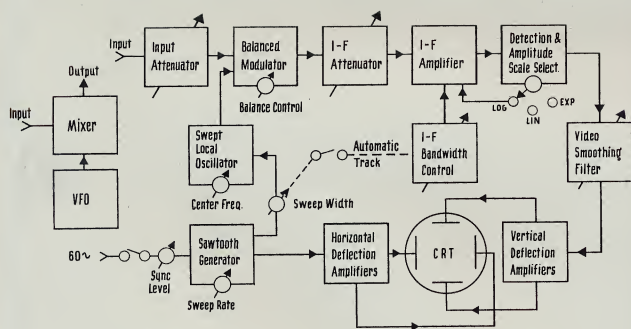

FIGURE 1B: Simplified Block Diagram of Basic Spectrum Analyzer
**Spectrum Analyzer:** A scanning receiver which automatically tunes through a selected spectrum and displays on a CRT or chart, a plot of level vs. frequency of signals at its input. It is an automatic Fourier Analysis plotter. See Figure 1A (typical Panoramic Spectrum Analyzer), Figure 1B (block diagram) and Figures 2-7 (display photos).